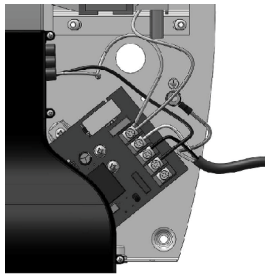

Fig. 5
- f. For 115-Volt Dryers, connect ground wire to ground terminal marked \oplus , the black or hot wire to terminal marked L1, and neutral or white wire to terminal marked N. A DEDICATED LINE IS REQUIRED FOR EACH 115-VOLT INSTALLATION. (See Fig. 5)
- g. For 208-240 Volt Dryers, connect ground wire to ground terminal marked \oplus and the 208-240 volt wires to terminal marked L1 and L2. (See Fig. 5)